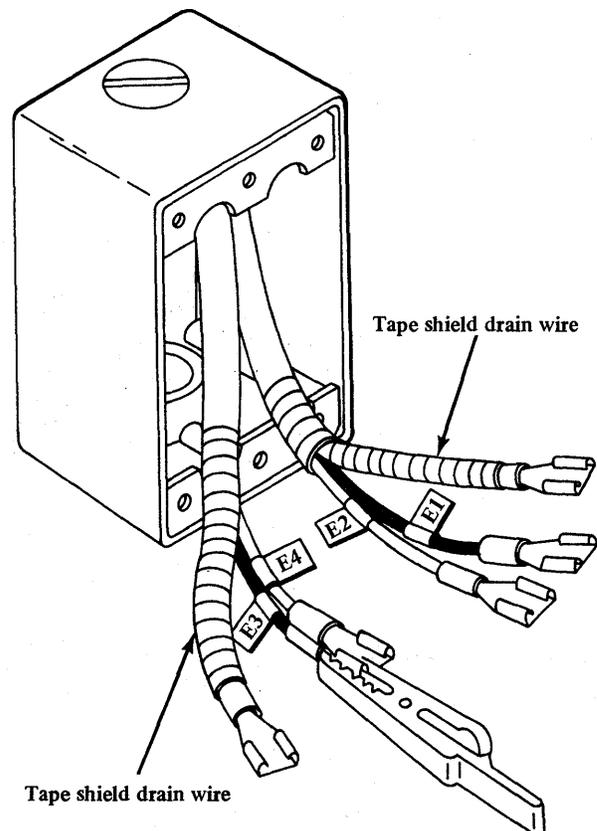

Figure 3-19. Shorted wires E3 and E4
- ( ) Short wires E3 and E4 together, as shown in Figure 3-19.